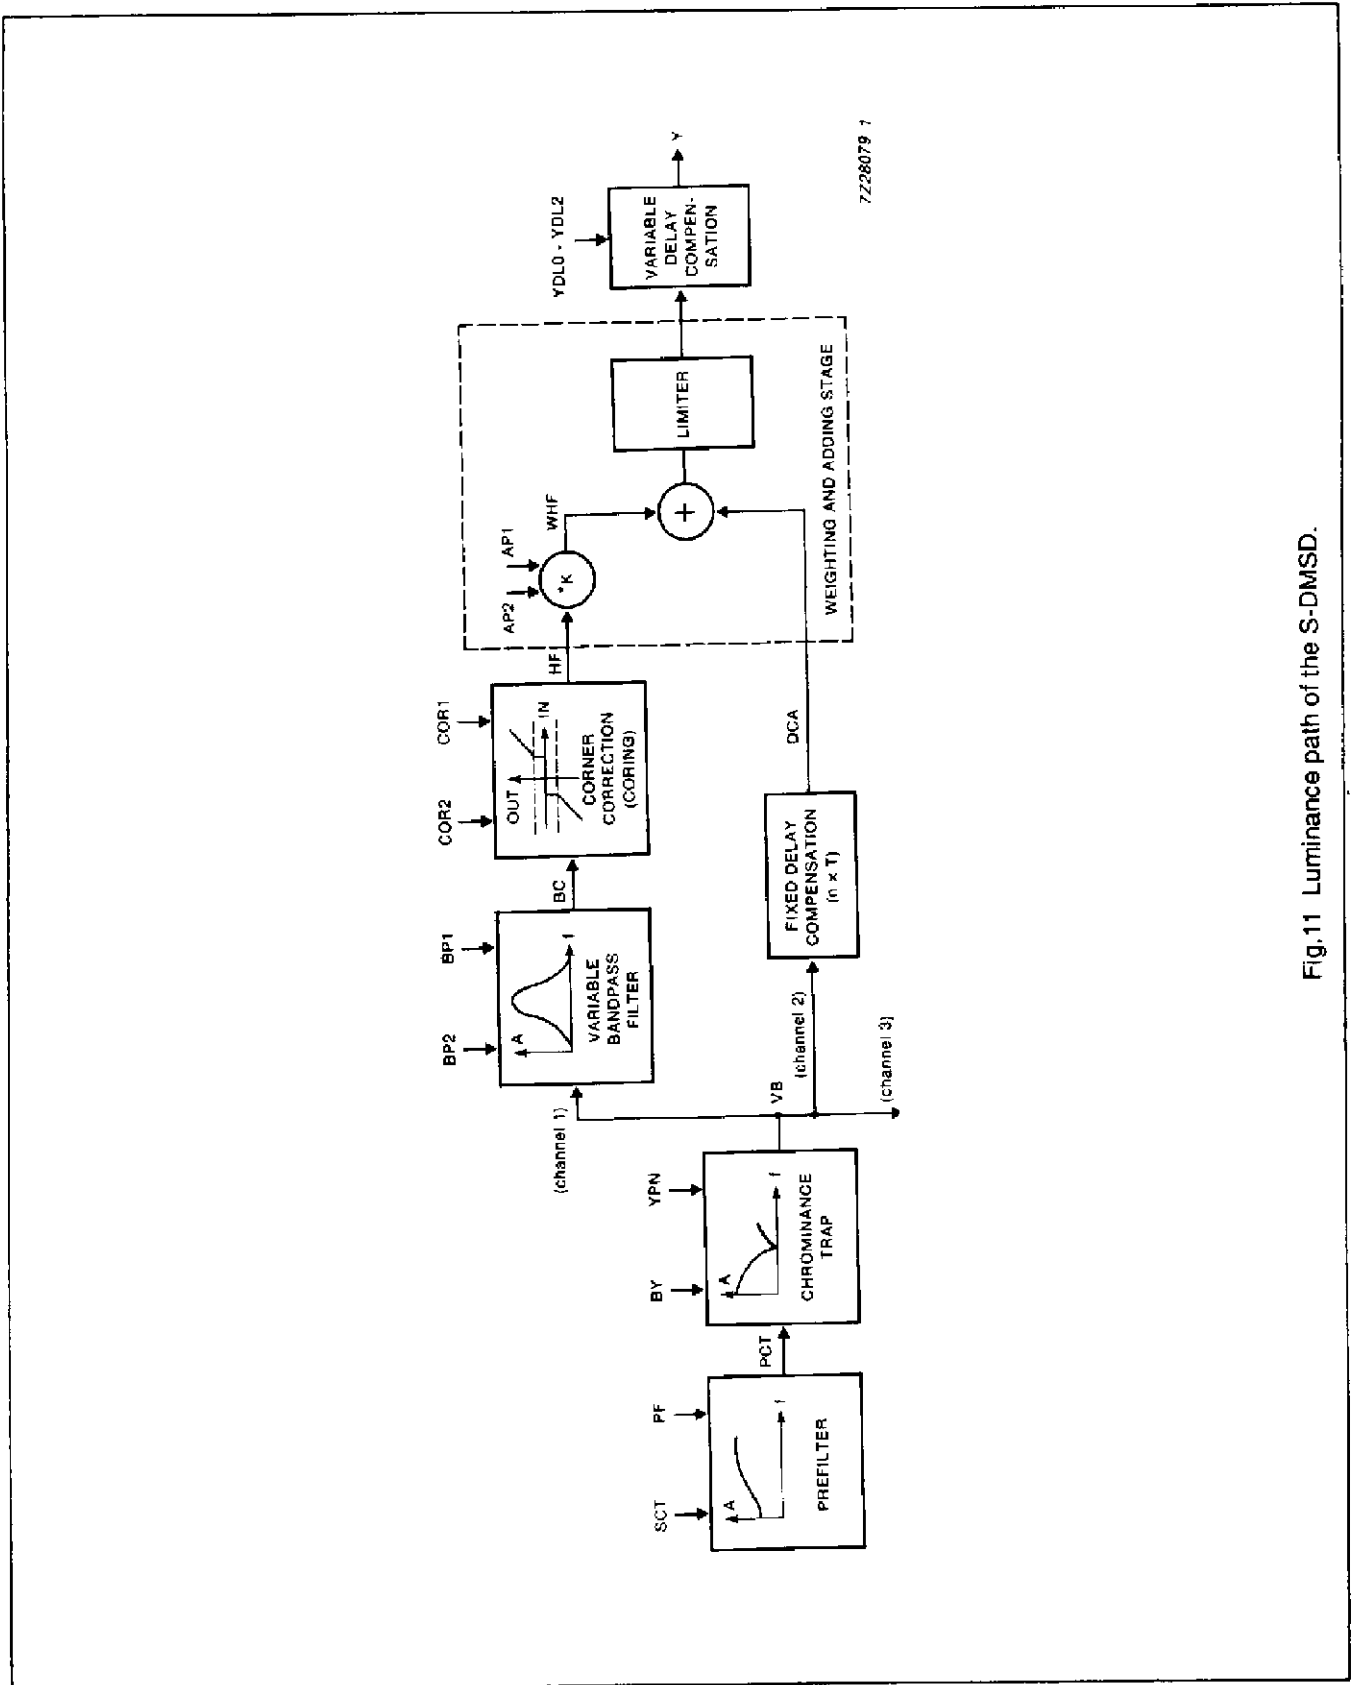

Fig.11 Luminance path of the S-DMSD.
Table 17 Aperture correction factor (AP1 and AP2 select the weighting factor K of the high frequency (HF) luminance components, see Fig.11)